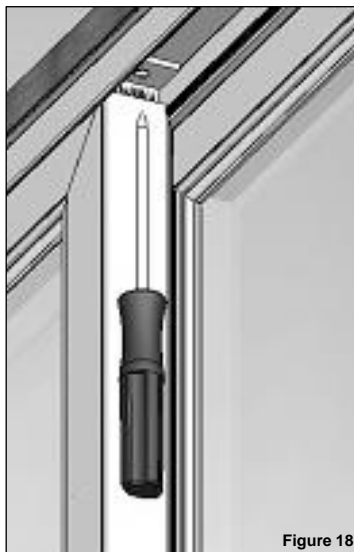

Figure 18
19. Close the operating panels and install the head pile weatherstrip above the interlock of the two panels with screw #8 - 3/4" (Figure 18).